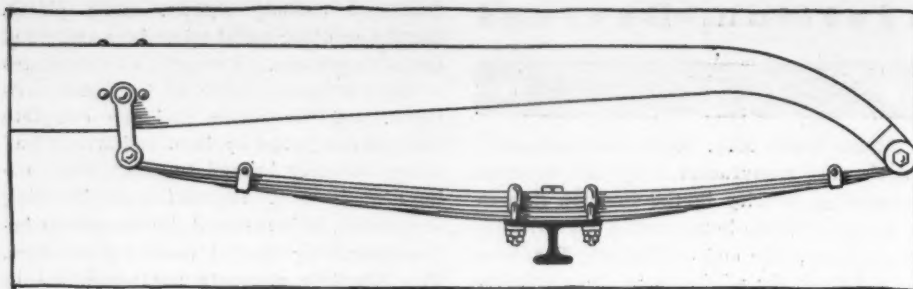
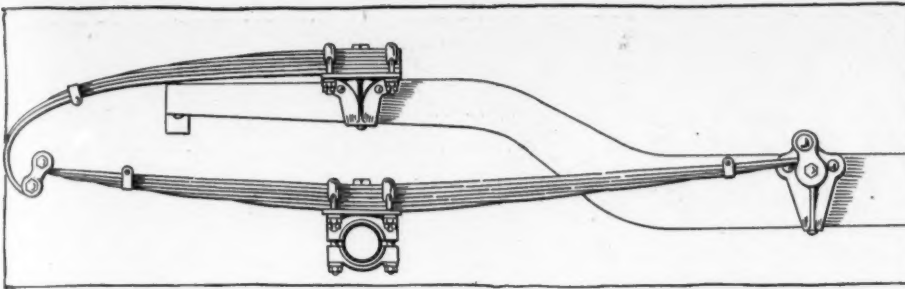

FIG. 36—PERFECTION SPRING
FIG. 40—THREE-QUARTER ELLIPTIC PERFECTION SPRING
**Perfection Spring Co.**—The Perfection Spring Co., in addition to its line of dual-acting springs which it has had on the market for several years, has a three-quarter type, specially designed to be used in conjunction with dropped frame construction, as illustrated in Fig. 36. The semi-elliptic portion is of standard construction and the upper quarter has a scroll end at the rear. In Fig. 40 is illustrated a conventional semi-elliptic front spring designed by this concern and which is offset on its seating, the front half being shorter than the rear in order to throw the axle forward of the radiator if so desired. This company is manufacturing these springs out of Vanadium, Krupp, crucible and special open hearth steel. All of the springs are hand-fitted and oil-tempered. In addition to the types illustrated the company continues its line of two-part, or dual, semi-elliptics, such as used for several seasons.